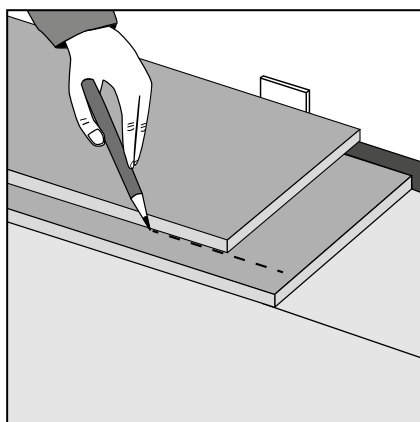

Figure 54 Last row
- ▶ Lay these planks on top of the installed row (fig 54). Hold them firmly in place. Then line up a third plank on top. Use the edge of this plank to mark the cutting line with a pencil on the plank beneath (minimum width 50mm). Carefully scribe along this line with the utility knife. Remember to place a spacer to the wall before measuring to ensure the correct expansion gap is left. After scribing, cut the planks lengthwise using a handsaw or jigsaw.
- ▶ Use the edge of this board to mark the cutting line with a pencil on the board beneath. Remember to allow for the expansion gap (Fig 54).